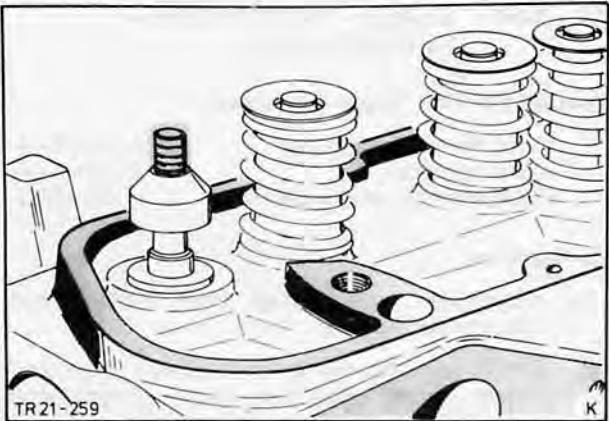

Fig. 182. Fit seal to valve stem
6. Cover valve spline with adhesive foil, slide new valve stem seal down valve stem, Fig. 182, against stop. Remove adhesive foil from valve stem. Fit valve spring and valve spring retainer, compress with Special Tool and fit collets. Release pressure on valve spring and remove Special Tool.